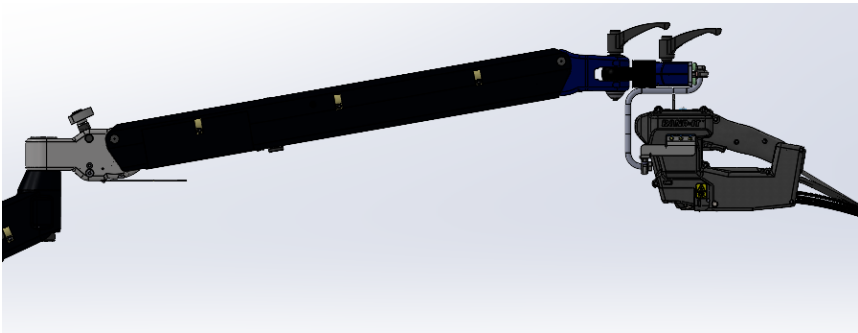

Figure 41
- See Figures 41 & 42 for two examples of articulating arms.